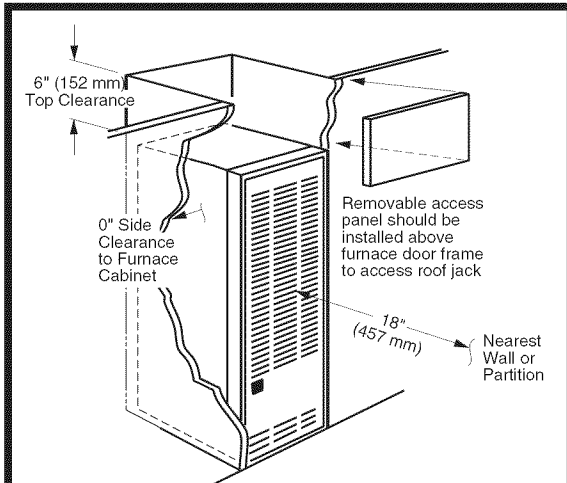

Figure 1. Alcove Installation
This heating appliance must be installed with clearances not less than the minimums listed in Table 1. This furnace must be installed with ample clearance for easy access to the air filter, blower assembly, burner assembly, controls, and vent connections. See Figures 1 - 3 (page 6).
- The furnace shall be appropriately located to the supply and return air distribution system (See Page 7). Sides and back of the furnace may be enclosed by wall framing. See Minimum Clearances (page 2) and Figures 1- 3.